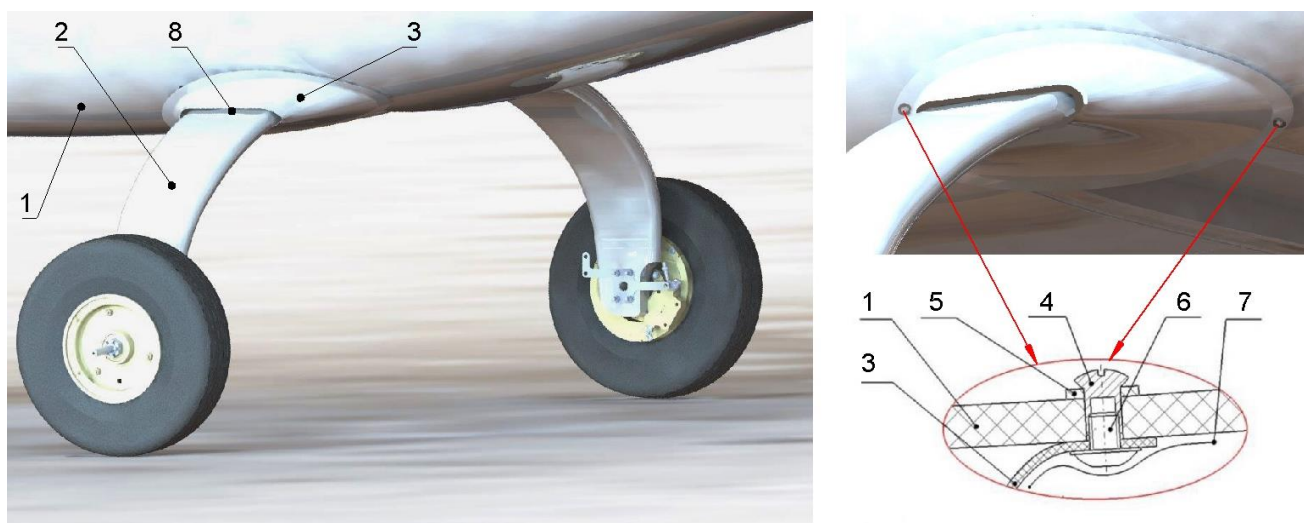

Fig. 32-10-7
B. Main Strut Fairing Removal and Installation (Fig. 32-10-7)